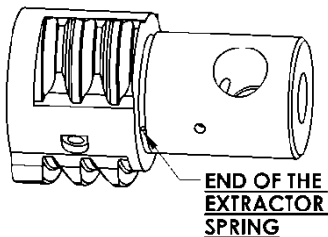

Figure 26.
2. Locate the end of the extractor spring. It is located just behind the bolt lugs. (Figure 26.) It is a single bent wire.